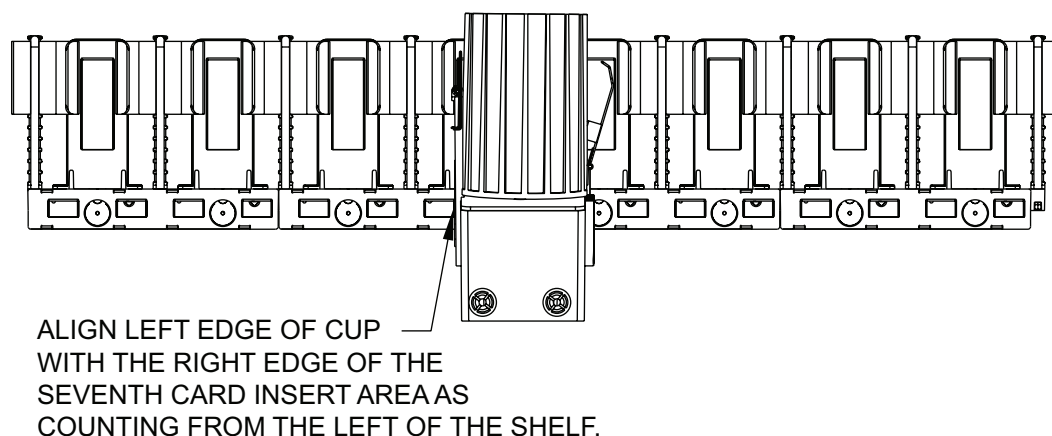

Figure 4.1
5. Align the left edge of the cup with the right edge of the seventh card insert feature. (See Figure 4.1.)